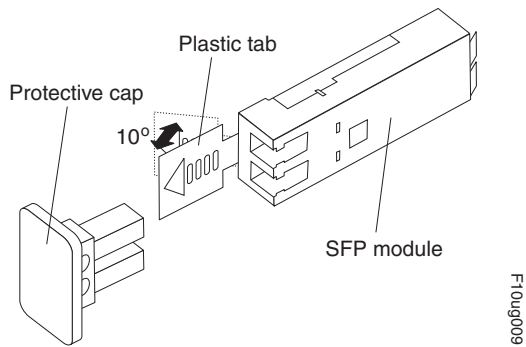

Figure 28. Unlocking the SFP module latch - plastic variety
- For SFP modules that contain plastic tabs, unlock the SFP module latch by pulling the plastic tab outward 10°, as shown in Figure 28 on page 38.